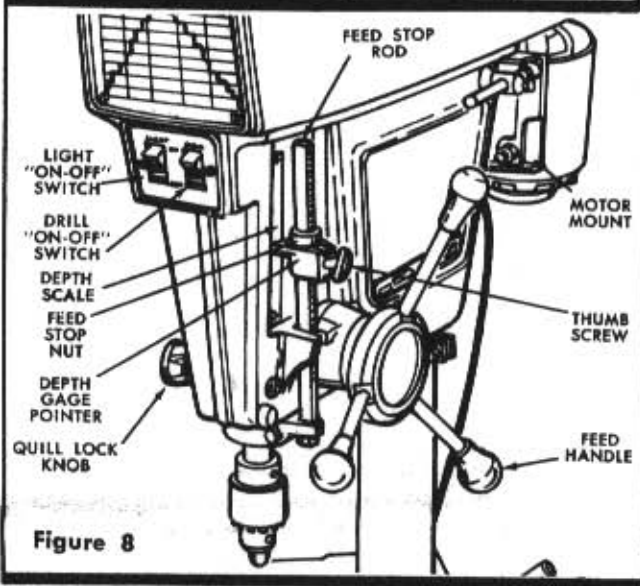

Figure 8
5. Screw thumb screw partly into depth gage pointer. Place depth gage shoe inside depth gage pointer. Slide the depth gage pointer onto the feed stop rod and tighten thumb screw. Screw the feed stop nut on the feed stop rod (See figure 8). Make sure depth gage pointer is positioned on feed stop rod with pointer on top.
6. Install a 60-watt incandescent bulb in the socket inside of head. Mount lens with (2) pan hd. mach. screws #10-32 x 9/16 long.
2. **Feed Stop Rod.** Carries the feed stop nut and depth gage pointer (see figure 8).
3. **Feed Handle.** The feed handle is used to raise and lower the quill a total distance of four inches. (See figure 8).
4. **Quill Lock Knob.** The quill lock knob (when tightened) holds the quill at any depth of cut for such operations as shaping, routing, surface grinding, etc. (See figure 8). Always release the quill lock before attempting to raise or lower the quill.
7. **Feed Stop.** The feed stop assembly provides a means of pre-setting hole depths before drilling or for drilling several holes to the same depth. (See figure 8). The depth gage pointer thumb screw (when tightened) holds the depth gage pointer in place. The feed stop nut prevents the depth gage pointer from moving when it reaches the maximum travel.
- b. With drill installed in chuck, loosen quill lock knob and lower quill by rotating feed handle until tip of drill contacts top surface of work piece. Tighten quill lock knob. (See figure 8.)
- Motor Mount.** The motor mount is designed with a hinge arrangement in order to make changing of spindle speeds easy and rapid. In addition, a quick-type belt adjusting rod has been provided, which will, in effect provide a solid motor mount and maintain proper belt tension when the drill press is operating (See figure 8).
- Switches.** The light and the motor are controlled by separate switches located on the front of the drill press head (See figure 8).